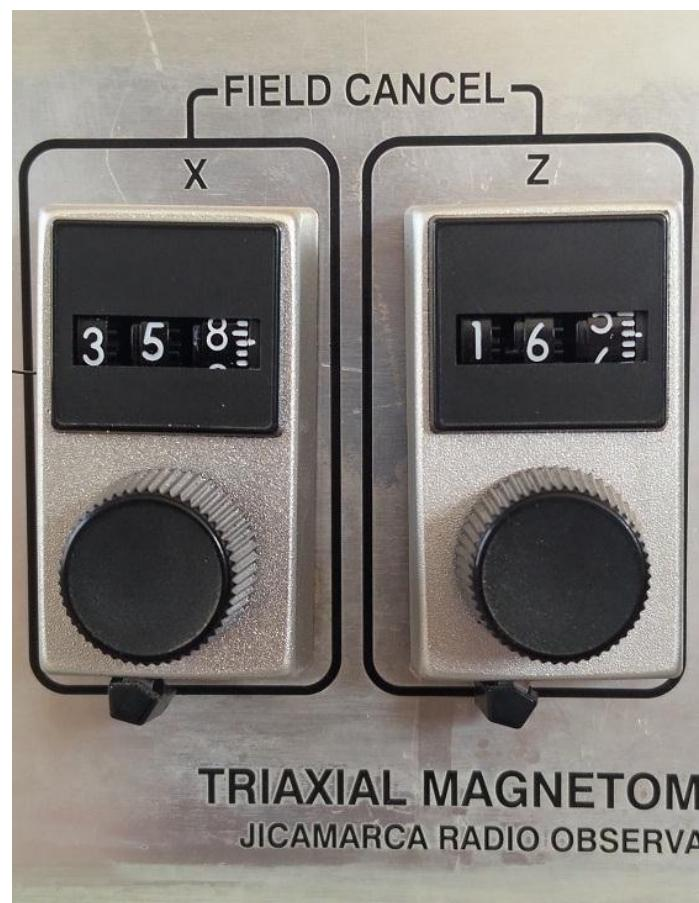

Fig. 4. Approximately dial settings for H and Z components
4. Rotate the X panel dial knob until get almost cero reading output as shown in Fig. 4
3. Rotate the Z panel dial knob until get almost cero reading output as shown in Fig 4.